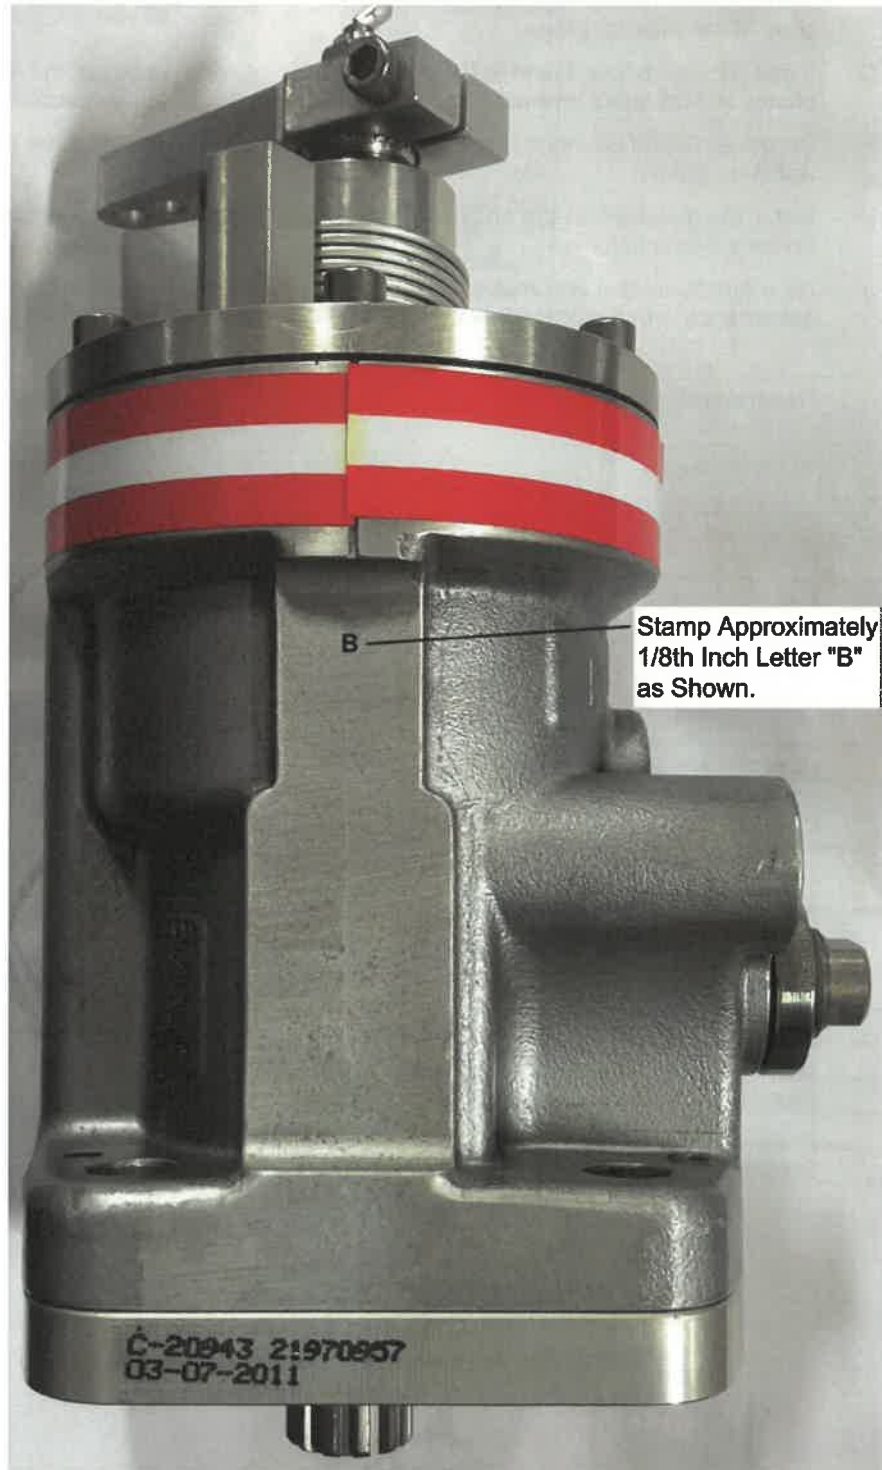

Figure 2. Governor Stamping (Sheet 1)
- (1) Remove and retain the A-20107 idler gear assembly.
- (2) Overhaul the governor and complete associated actions as indicated in McCauley SB215C
**E. Stamp the letter "B" (Approximately 1/8th of an inch character) on the governor body as shown in Figure 2.**
**NOTE:** Governor stamping can be on the side shown in Figure 2, or on the data plate side.